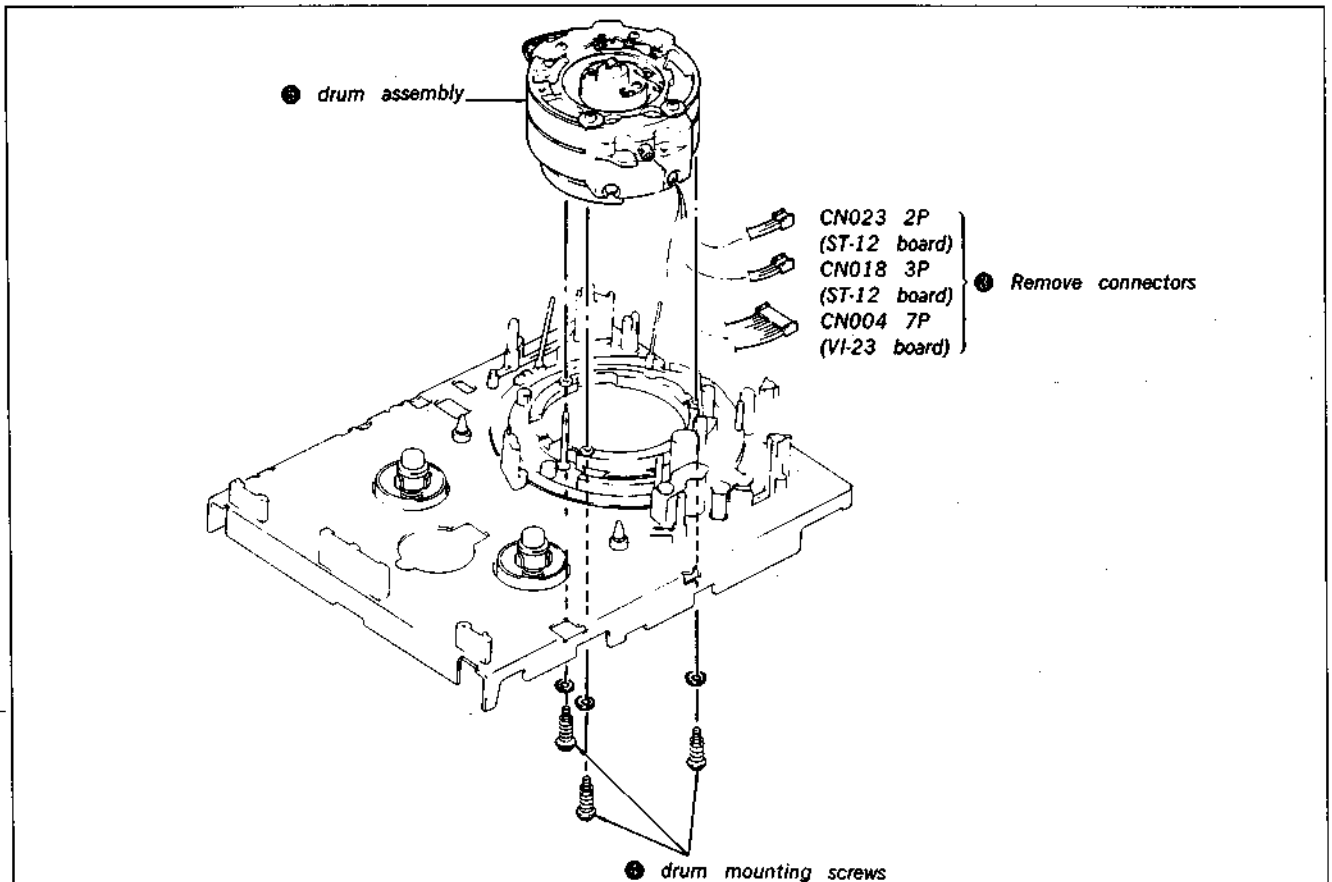

Fig. 3-6. Removal of the drum assembly
- 4) Remove the three connectors **3** from the rear of the chassis as shown in Fig. 3-6.